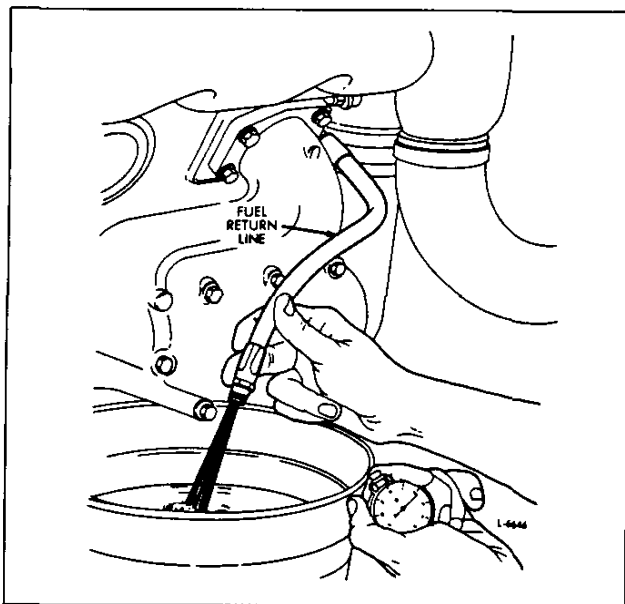

Fig. 24 - Measuring Fuel Flow
1. Disconnect the fuel return hose from the fitting at the fuel tank and hold the open end in a convenient receptacle (Fig. 24).